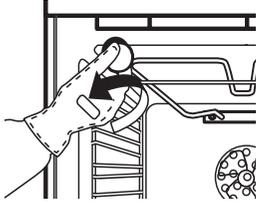

Fig. 5
2. Unscrew the lamp cover (Fig. 5), replace the lamp (see note for lamp type) and screw the lamp cover back on.
- The lamp used in the appliance is specifically designed for electrical appliances and it is not suitable for household room illumination (Commission Regulation (EC) No 244/2009).